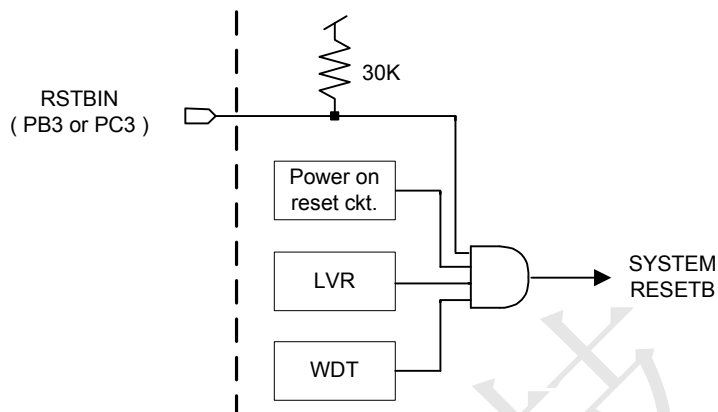

Figure 10.1 Reset system block diagram
TRSF1608A(C) reset is come from four signals which are power on reset, low voltage reset(LVR), external IO PB3 or PC3 pin (by option) and WDT overflow reset, as shown in Figure 10.1. A dedicated external resetb input pin (by option) is provided to reset this chip, which has 30K ohm pull up resistor. The operation frequency of MCU will go back to BANK0 mode when reset occurred.